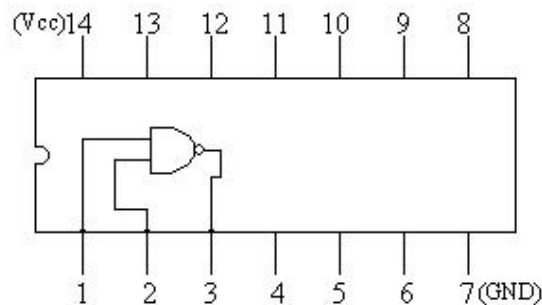

Figure 3 : TTL Chip 7400
- 10- Using a single gate of the TTL 7400 chip (Quadruple 2-input NAND gates), as shown in Figure 3, **repeat step 6 and 7**.